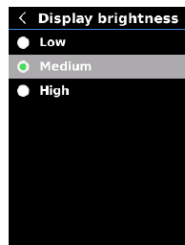

Fig. 19
3. Use the \wedge and \vee buttons to select the desired brightness level between "Low", "Medium" or "High" (Fig. 19).